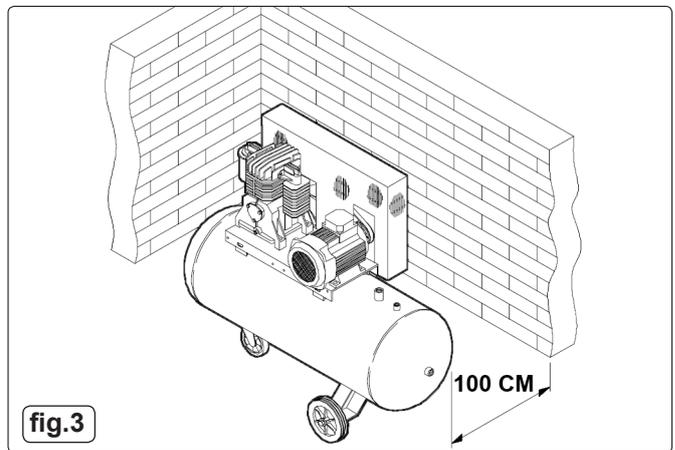

fig.3
- 4.1.5. To ensure good ventilation and efficient cooling, the compressor's belt guard must be at least 100cm from any wall (fig.3).